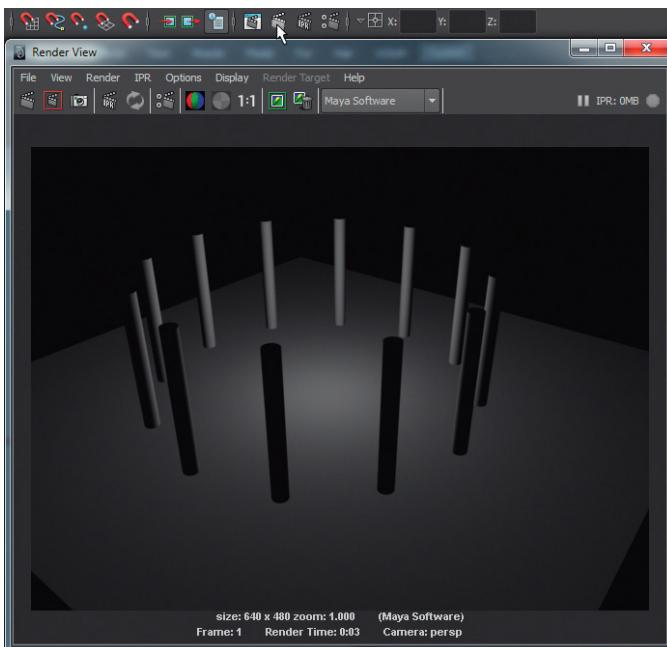

FIG 7.5 First rendering using default settings for a Point Light.
Step 4: Render the scene. **Figure 7.5** shows the mouse over the Render the Current Frame button and the results of the render.